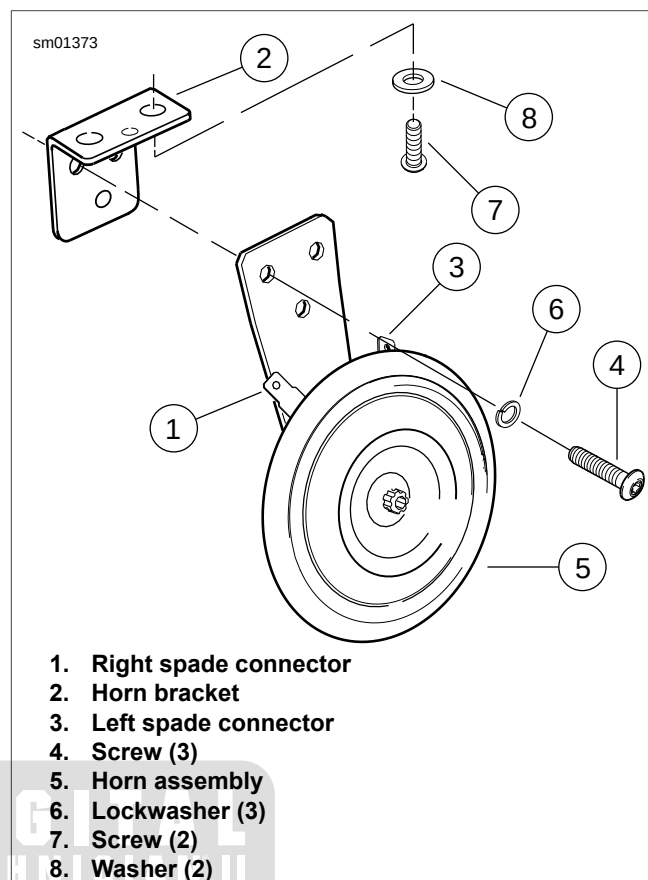

Figure 6-133. Horn Components
- See Figure 6-133. Remove terminal clips from horn spade connectors (1, 3).
- Remove screws (4) and lockwashers (6) from horn bracket (2). Remove horn assembly (5).
- Install the yellow wire with black tracer to the left spade connector (3) and the black wire to the right spade connector (1).